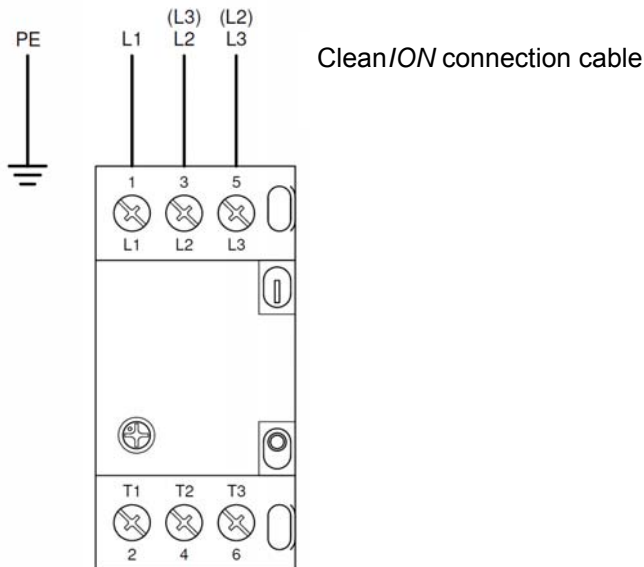

Figure 3, mains cable connection in Clean/ON switchbox
- Two phases of the connection cable must be swapped in the mains connection or in the Clean/ON terminal box (figure 3).